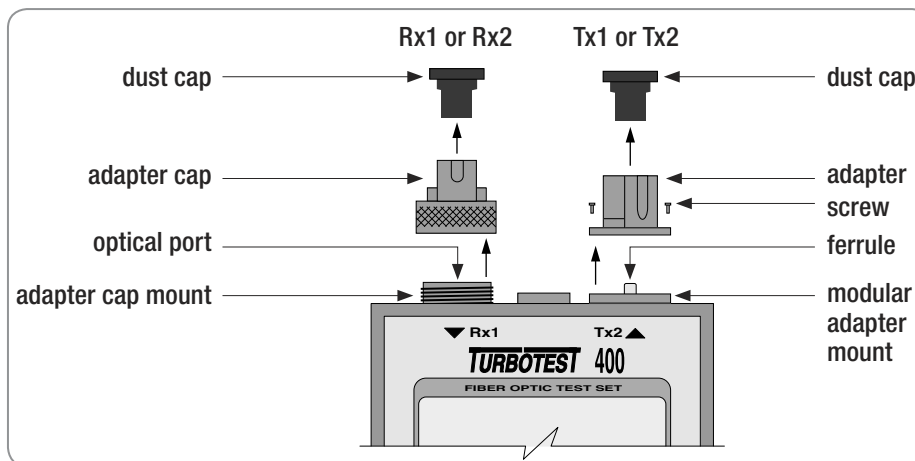

Figure 5-1. Cleaning Optical Ports.
- 1 Remove the dust cap on the adapter (refer to Figure 5-1).
- 1 Remove the dust cap on the adapter cap (Refer to Figure 5-1).